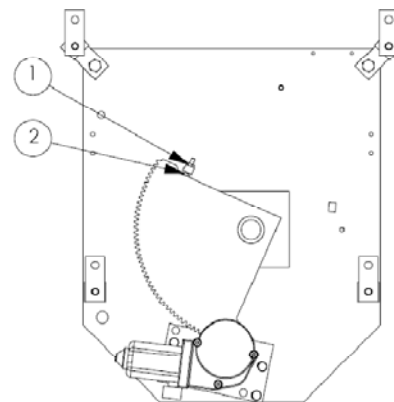

Figure 1.5
- b.) If you want the seat angled with respect to the dash, you will need to re-set the swivel gear stop; loosen the jam nut (#1 on Fig 1.5) on the #10-32 flat-head cap screw (#2 on Fig 1.5), thread the screw all the way into the Adjustable Swivel Gear Stop, and tighten the jam nut to secure.